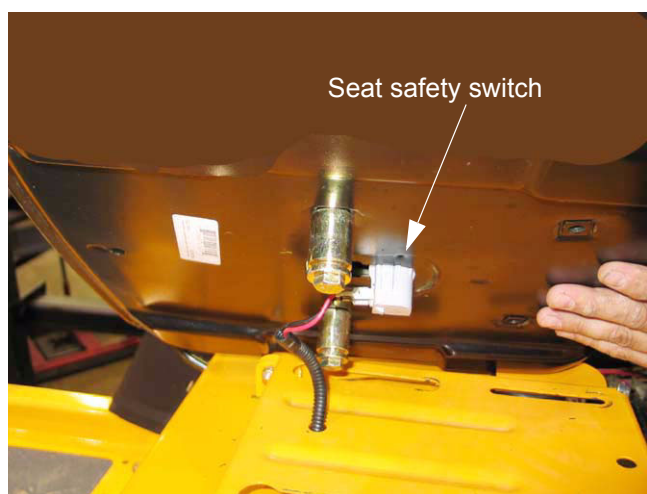

Figure 15.1
15.1. The SEAT SAFETY SWITCH is located under the seat assembly. See Figure 15.1.